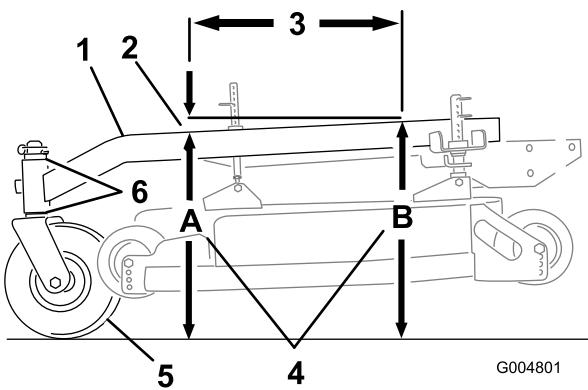

Figure 64
The carrier frame must have a pitch between 1/8 inch (3 mm) to 3/8 inch (9 mm) over the length of 24 inches (61 cm) on the carrier frame (Figure 64).
1. Measure out 24 inches (61 cm) on the carrier frame (Figure 64).
2. Measure carrier frame height at location **A** (Figure 64).
3. Measure carrier frame height at location **B** (Figure 64).
4. The height at location **A** must be a 1/4-3/8 inch (6 mm -10 mm) lower than location **B** (Figure 64).
5. If the carrier frame is not correct, move caster spacers to make it a 1/4-3/8 inch (6 -10 mm) pitch (Figure 64). Move spacers from top or bottom to make the correct pitch.